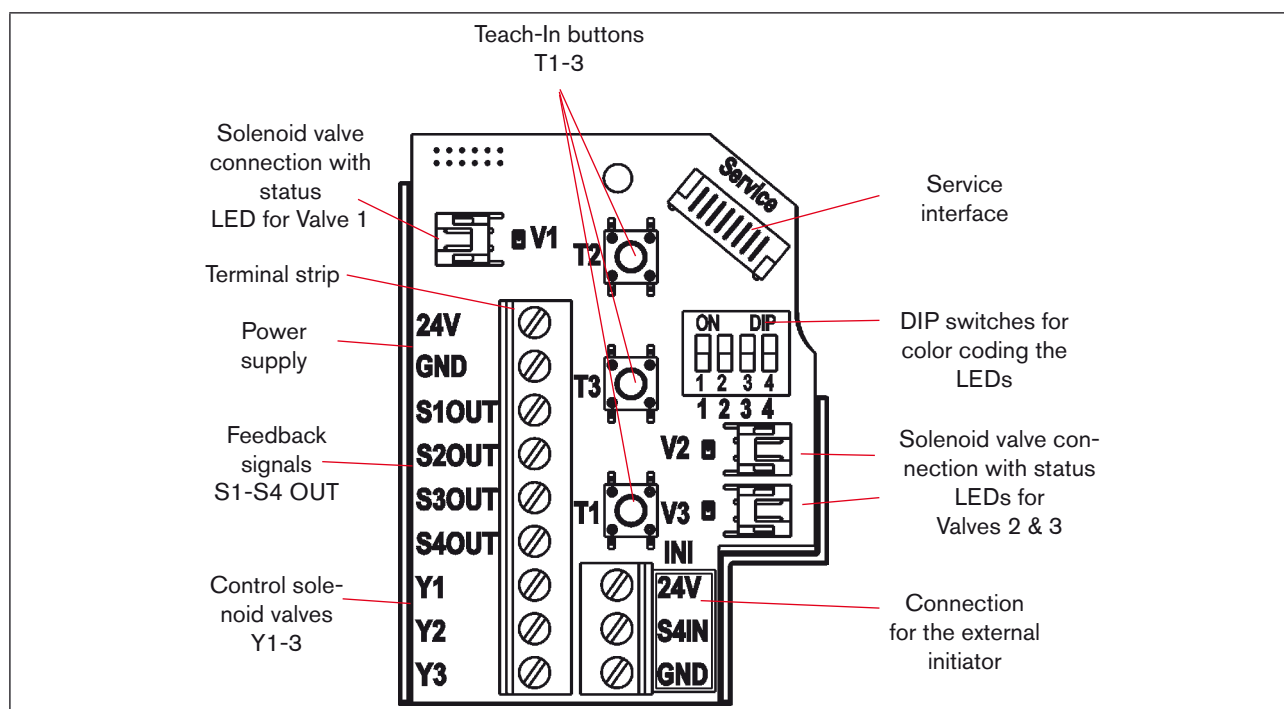

Fig. 11: 24 V DC electronics module
- Secure the wires to the connection terminals according to the pin assignments depicted in Fig. 11.